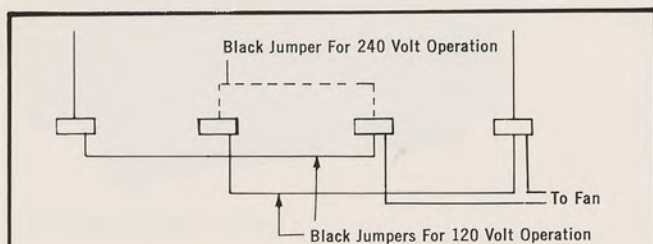

Figure 4. Hookup of Spectrophotometer for 120 Volts or 240 Volts
The following procedure and Figure 4 explain the hookup for 120 and 240 volt operation:
3. Locate cardboard cover labeled, "DANGER HIGH VOLTAGE." Lift cover to expose terminal strip, Figure 4.
- a. Remove two black jumpers shown in Figure 4.
- b. Replace one jumper as shown in Figure 4, for operation on 240 volts.
- a. Remove single, black jumper shown in Figure 4.
- b. Place two, black jumpers between terminals, as shown in Figure 4.